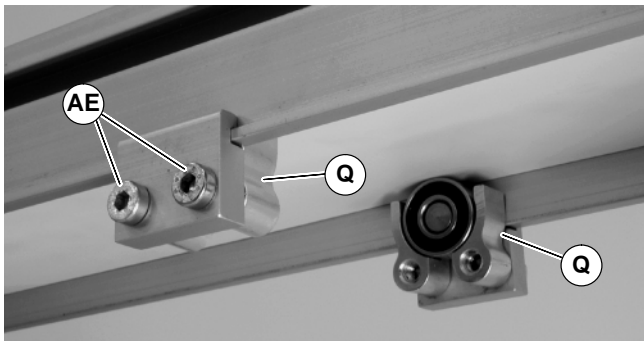

Figure 14
3. Install roller assemblies (Q of Figure 14) as shown. Tighten screws (AE) to 7 Nm.